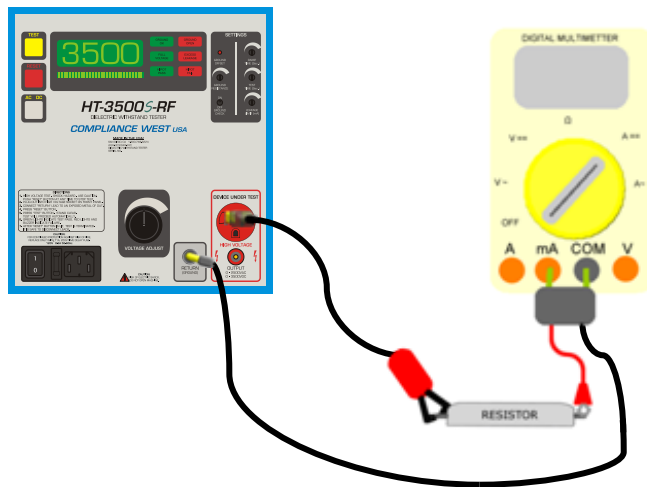

Figure 7. Current Measurement with 100 W High Voltage Resistor.
2. Connect the output of the HT-3500S-RF through a 100 watt high voltage load resistor (60k Ω for AC or 240k Ω DC) in series with an external current meter returning to the Return jack on the panel of the HT-3500S-RF as is shown on Figure 7, or hook up the positive probe terminal to the High voltage test jack on units that have it.